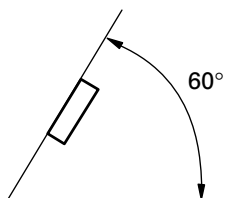

Fig. 2
- If installation angle exceeds 60° from horizontal, the unit might not give its optimum performance. (Fig. 2)